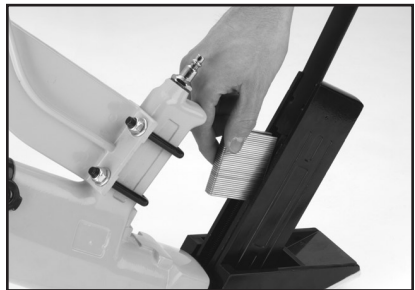

Figure 2. Loading staples into stapler.
3. Load a staple stick in the T-slot at the top of the magazine as shown in **Figure 2**.